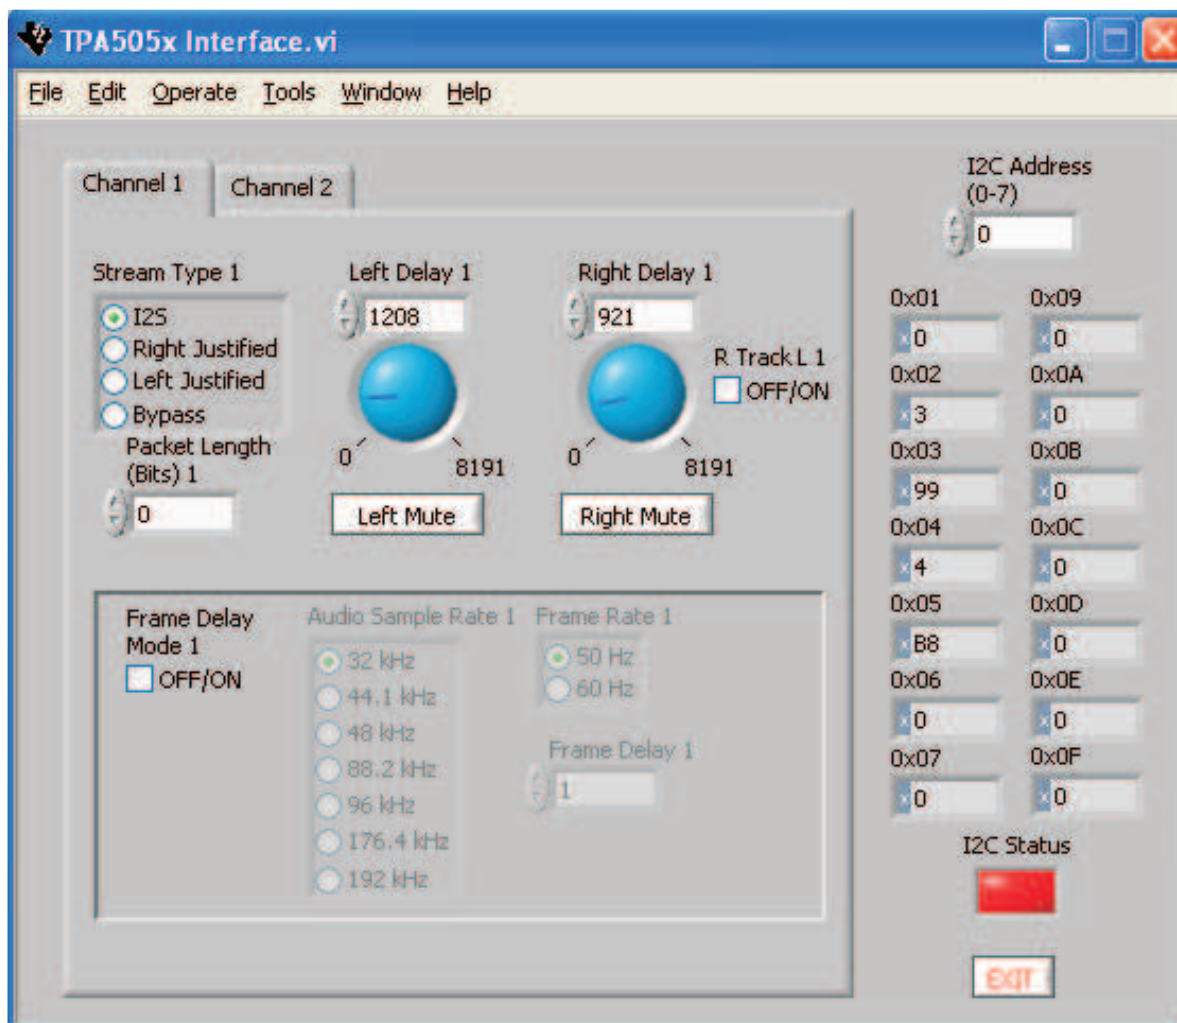

Figure 4. TPA5051 in I²S Mode – Unable to Communicate
- The *I2C Status* display at the bottom right indicates whether the device and the computer are communicating properly. A red status bar indicates a problem. A green status bar indicates the device and computer are talking (see Figure 4). Possible solutions to the red status bar problem are to depress and release the **reset** button on the TI Input USB board, check to see that all cables are properly connected, restart the TPA5051 GUI, remove and then re-insert the USB cable into the computer, reboot the computer, or re-install the software.